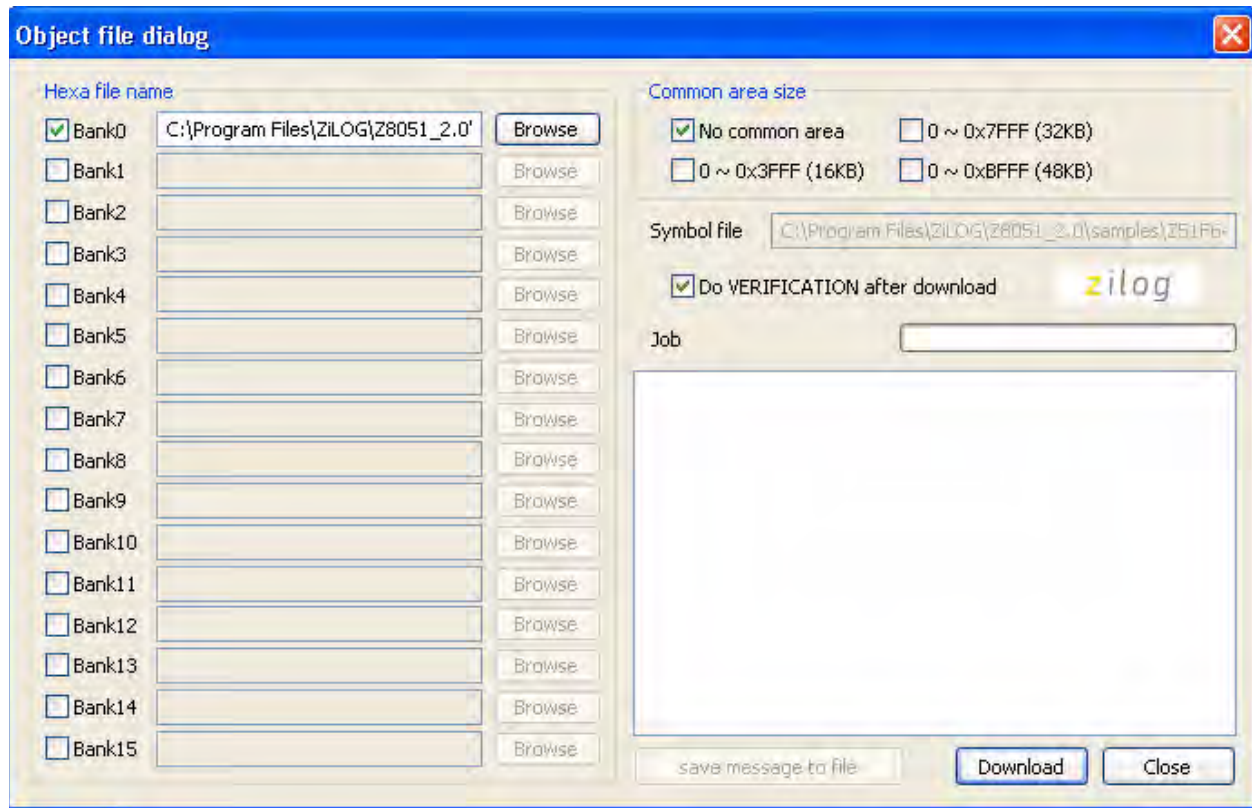

Figure 17. Object File Dialog
5. In the Debugger window, select **Load Hex** from the **File** menu to display the Object File dialog, which is shown in Figure 17.